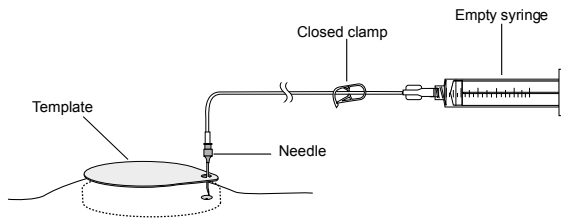

Figure 10. Close clamp and insert needle into catheter access port.
1. Using sterile procedures, assemble the needle, extension tubing, and empty syringe (Figure 10).
2. Close the clamp and gently insert the needle into the catheter access port septum until the needle touches the needle stop (Figure 10).